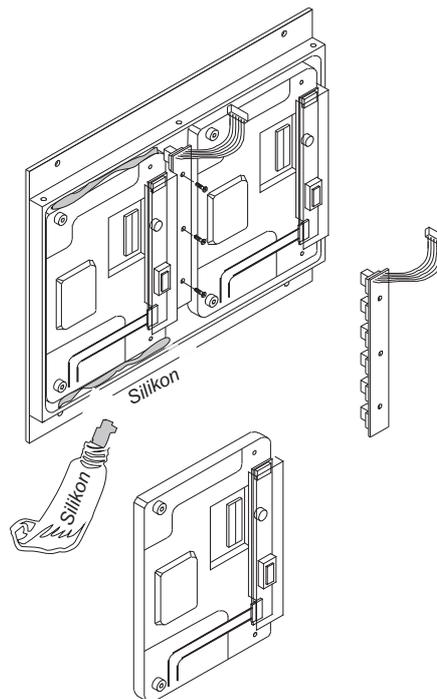

Fig. E 8-18: Assembling the new display unit
11. Place the new display unit, justify it and fix it with silicone (Fig. E 8-18). Let dry the silicone!